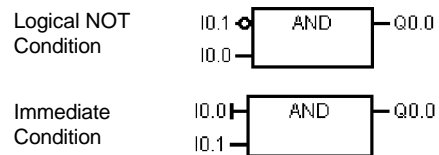

Figure 5-5 FBD Conventions
- Negation bubbles: The logical NOT condition or inverted condition of the operand or power flow is shown by the small circle on the input. In Figure 5-5, Q0.0 is equal to the NOT of I0.0 AND I0.1. Negation bubbles are only valid for Boolean signals, which can be specified as parameters or power flow.
- Immediate indicators: As shown in Figure 5-5, the FBD editor displays an immediate condition of a Boolean operand with a vertical line on the input to an FBD instruction. The immediate indicator causes an immediate read from the specified physical input. Immediate operators are only valid for physical inputs.